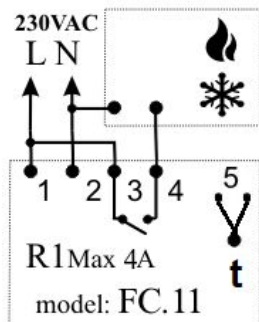

Figure 3A
Electrical connection: 230V switched output (Figure 3a)
- Supply the device with 230V/AC/50Hz between terminals #1 / "L" and #2 / "N", through a fuse rated at max 6A. Figure 3a